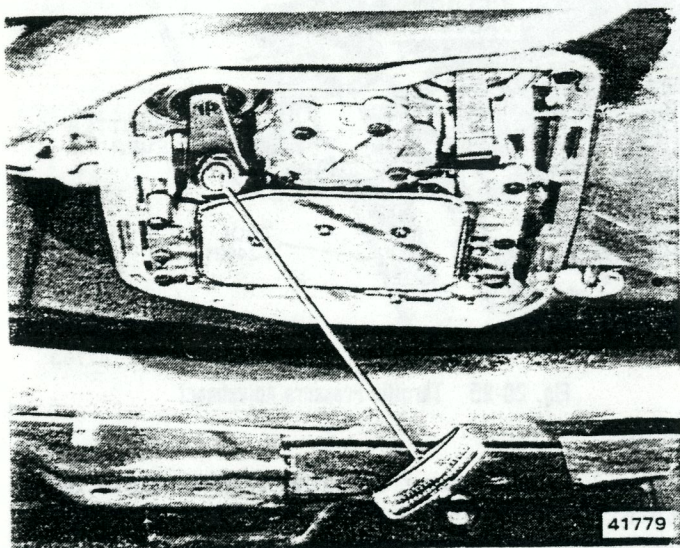

Fig. 2C-22 Rear Band Adjustment
The rear band adjustment is an internal adjustment. The transmission oil pan must be removed to gain access to the band adjusting screw (fig. 2C-22).
- (1) Raise vehicle.
- (2) Remove oil pan and drain fluid.
- (3) Inspect fluid and filter for heavy accumulation of friction material or metal particles which indicate worn or damaged parts. However, a very light accumulation of this material is normal.
- (4) Adjust band as follows (fig. 2C-22):
- (5) Install oil pan and replacement pan gasket. Tighten oil pan bolts to 150 inch-pounds (17 N•m) torque.
- (6) Lower vehicle.
- (7) Fill transmission with Jeep, Dexron, or equivalent automatic transmission fluid. Refer to Fluid Level and Condition for refill procedure.